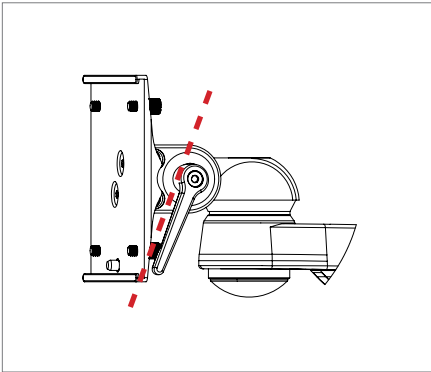
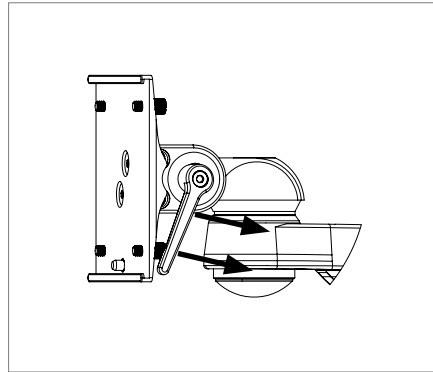

Figure 2
Figure 3
2. A sufficient level of tightness may not be achieved by the time the **TILT ADJUSTMENT LEVER** touches the back of the **PATIENT MONITOR SHELF** (Figure 2). If this occurs, pull the **LEVER** away from the **MON HEAD** to disengage the **LEVER** (Figure 3). Turn the **LEVER** counter-clockwise (Figure 4 [1]) to create space for the **LEVER** to further tighten. Push the lever towards the **MON HEAD** (Figure 4 [2]) to re-engage the **LEVER**. Repeat **Step 1** to further tighten the **TILT HINGE**.